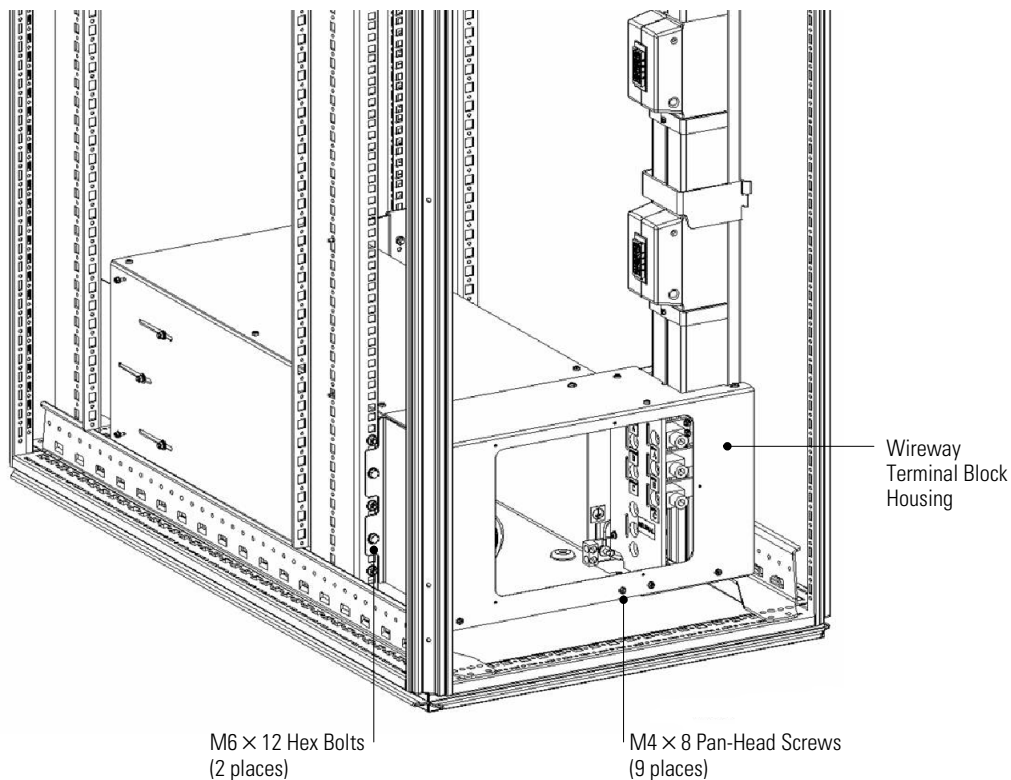

Figure 8. Wireway Terminal Block Housing Installation
17. Using two M6 × 12 hex bolts, secure the left side of the wireway terminal block housing to the rack. See Figure 8. Torque the bolts to 5.1 ± 0.8 Nm (45 ± 7 lb in).
18. Using nine M4 × 8 pan-head screws, secure the wireway terminal block housing to the wireway and to the bar. See Figure 8. Torque the screws to 1.7 ± 0.2 Nm (15 ± 2 lb in).